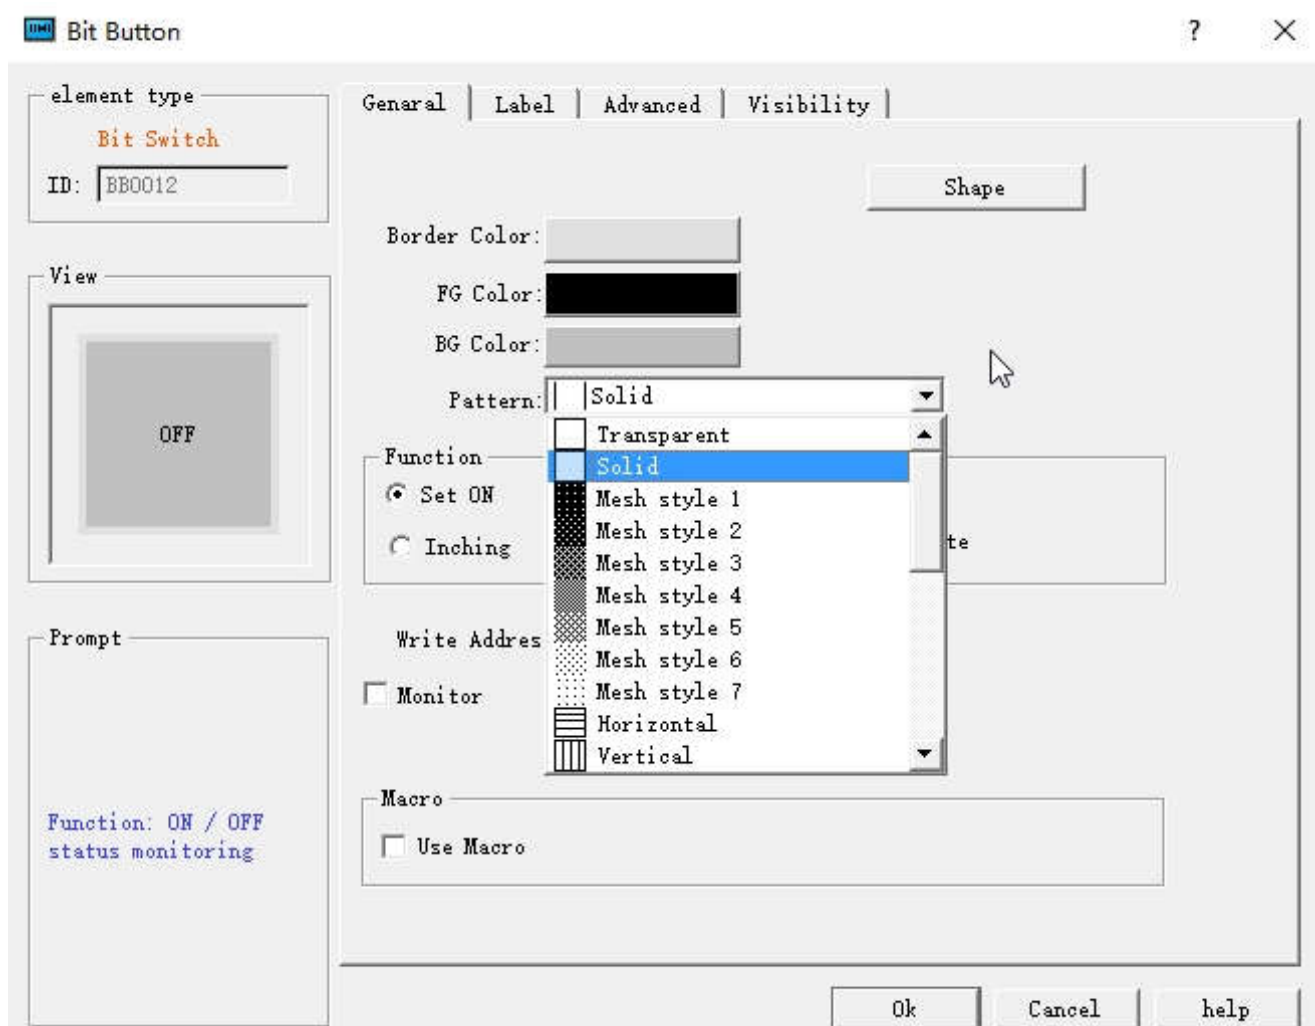

Figure 4-66 Change shape and pattern value
- ◆ Pattern: Click the drop-down box, which contains a total of 21 kinds of patterns as shown in Figure 4-66: